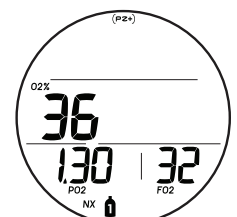

Fig. 36 - NORM SURF ALT 3 (only if Nitrox)
**NORM SURF ALT 3**, information includes (Fig. 36):